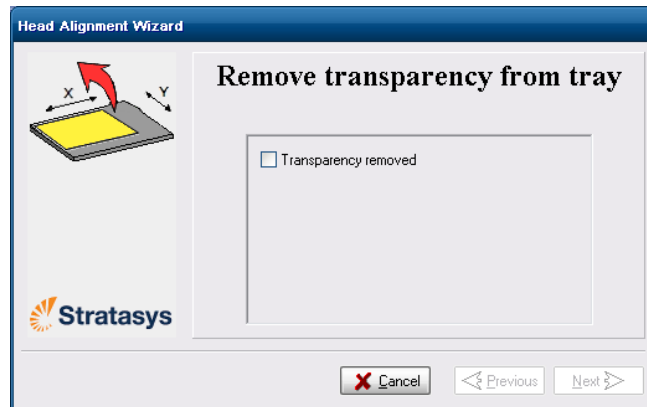

Figure 6-43: Head Alignment wizard—steps 8–10
10. In the wizard screen shown in figure 6-43, select the *Transparency removed* check box, and click Next.